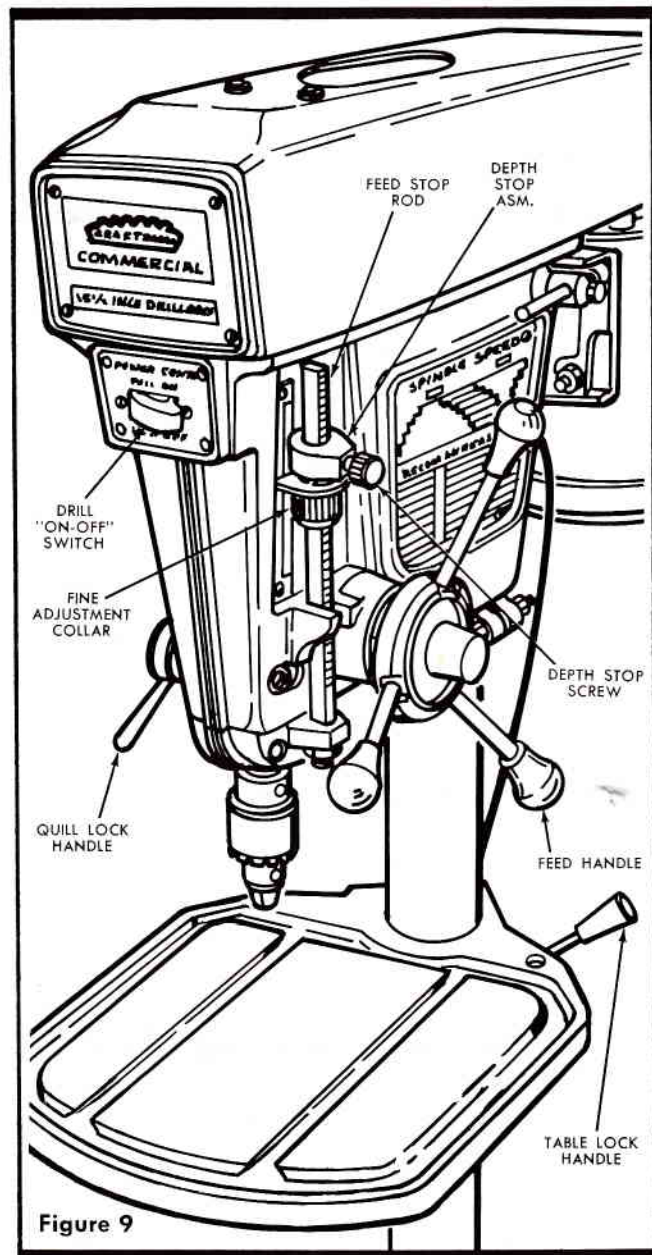
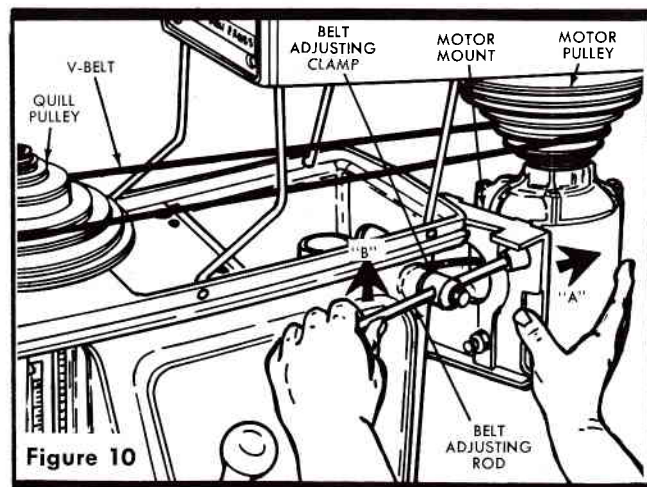

Figure 9
Figure 10
- 2. Switch.** The motor is controlled by a safety switch (pull on; push off), located on the front of the drill press head (see figure 9).
- 3. Spindle Speeds.** Eight spindle speeds are available by moving the V-Belt from one pulley groove to another (see figure 10). These eight spindle speeds have been found adequate for all normal operations using common materials. To change the spindle speed refer to step 3 "BELT ADJUSTING ROD". Refer to the R.H. trim panel for the recommended spindle speed step for drill diameter and material. This chart is based on using the recommended 1725 RPM motor.
- Push motor mount (A figure 10) back.
- Lift up on belt adjusting rod (B figure 10) release motor mount.
- Push motor mount (A) back and re-position belt adjusting rod.
5. Feed Handle. The feed handle is used to raise and lower the quill a total distance of four inches (see Figure 9). If the feed return fails to return quill to the top of the stroke, refer to "Adjustments", "Automatic Feed Return" on page 8.
6. Depth Stop Assembly. The depth stop assembly provides a means of pre-setting hole depths before drilling and for drilling several holes to the same depth (see figure 9). The depth stop has both a quick coarse adjustment and a fine adjustment. It can be moved on the feed stop rod for fast positioning by loosening the depth stop screw and sliding it up or down to the approximate desired position (see figure 9). Fine adjustment can be made by rotating the adjustment collar (see figure 9). The following steps should be followed for adjusting depth stop assembly.
- Lower quill until tip of drill contracts top surface of work piece and tighten quill lock handle (see figure 9).
- Final fine adjustment can be made by rotating adjustment collar (see figure 9). Each quarter turn is equal to 1/64-inch, each full turn is equal to 1/16-inch.
7. Quill Lock Handle: The quill lock handle (when tightened) holds the quill at any depth of cut for such operations as shaping, routing, surface grinding, etc. (see figure 9). Always release the quill lock before attempting to raise or lower the quill.